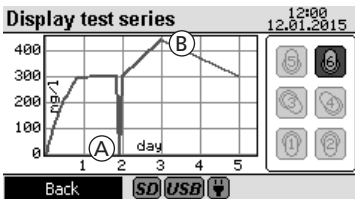

Figure 11
Underrange (A) is shown with zero and **Overrange (B)** is shown with the maximum display value for the measuring range. If a measurement is unsuccessful, the measurement can be ignored, see Figure 11.